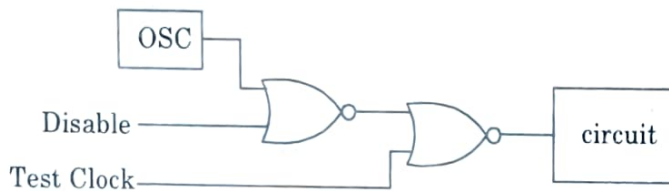

Fig. 5.11.2. Avoid synchronization problems via disabling of the oscillator.
- ii. For example, rather than connecting the circuit directly to the on-chip oscillator, the clock signal can be ORed with a disabling signal followed by an insertion of a testing signal as shown in Fig. 5.11.2.